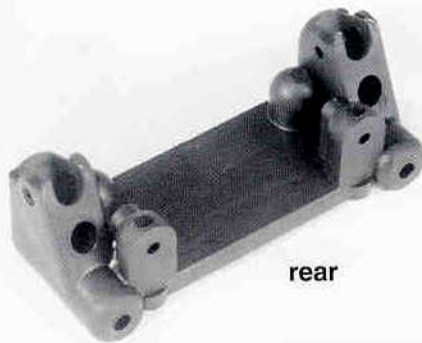

Fig. 12
□ **Figs. 12, 13 & 13A** Go back to bag 7-1 and remove the #7207 front bulkhead, the #7208 front bulkhead aluminum support, and the two #7209 front inner hinge pins. Match the hinge pins to the scale drawing. Fig. 12 shows you the front bulkhead alone to make it easier to identify the front and rear sides of the bulkhead. Check the fit of the hinge pins in the A-arms the same way we did for the front A-arms. Free them up if necessary. We want the pins to be tight in the front bulkhead, but free in the arms.